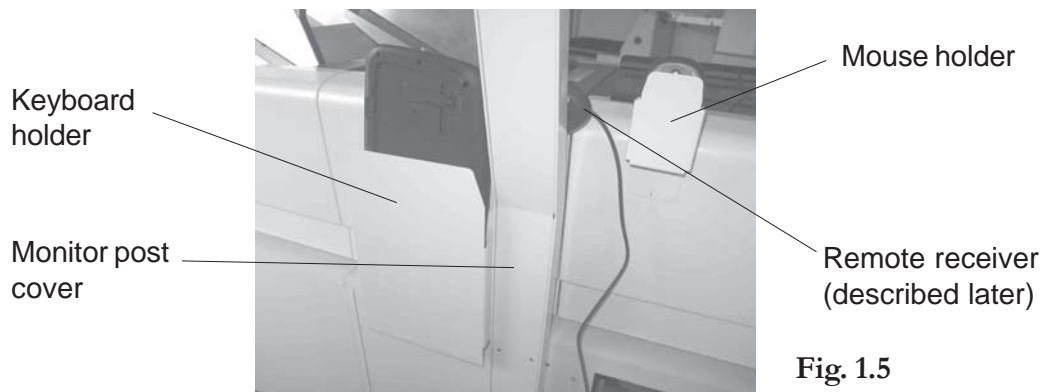

Fig. 1.5
- 1.3.2 Slide the keyhole slots on the monitor stand onto the spigots. Assemble the keyboard holder to the side of the stand as using M4 x 10 Pozi countersunk screws and nuts. Using double-sided adhesive tape, attach the mouse holder to the cover of the insert head or any other location as desired. Note that the keyboard holder can also be mounted on the other side of the stand if desired. At this stage, do not attach the monitor post cover (shown in Fig. 1.5 below).
- 1.3.4 Attach the monitor screen to the post using 4 off M4 x 6 screws, as shown in Fig. 1.7 below. Feed the cables through the aperture below the screen and plug them into the connectors on the lower edge. There should be 2 x colour-coded 'D'-type leads (one dark blue, one turquoise), 1 x mains lead and 1 x 3.5mm jack lead for sound - connect the light blue end to the monitor. Also include the lead for the keyboard/mouse receiver so that the receiver end is close to the aperture. Attach 2 equal length strips of self-adhesive magnetic tape to the back of the receiver and stick it to the front of the monitor stand. Attach the rear cover to the monitor post (see Fig. 1.5) using 8 off M4 x 10 countersunk screws.